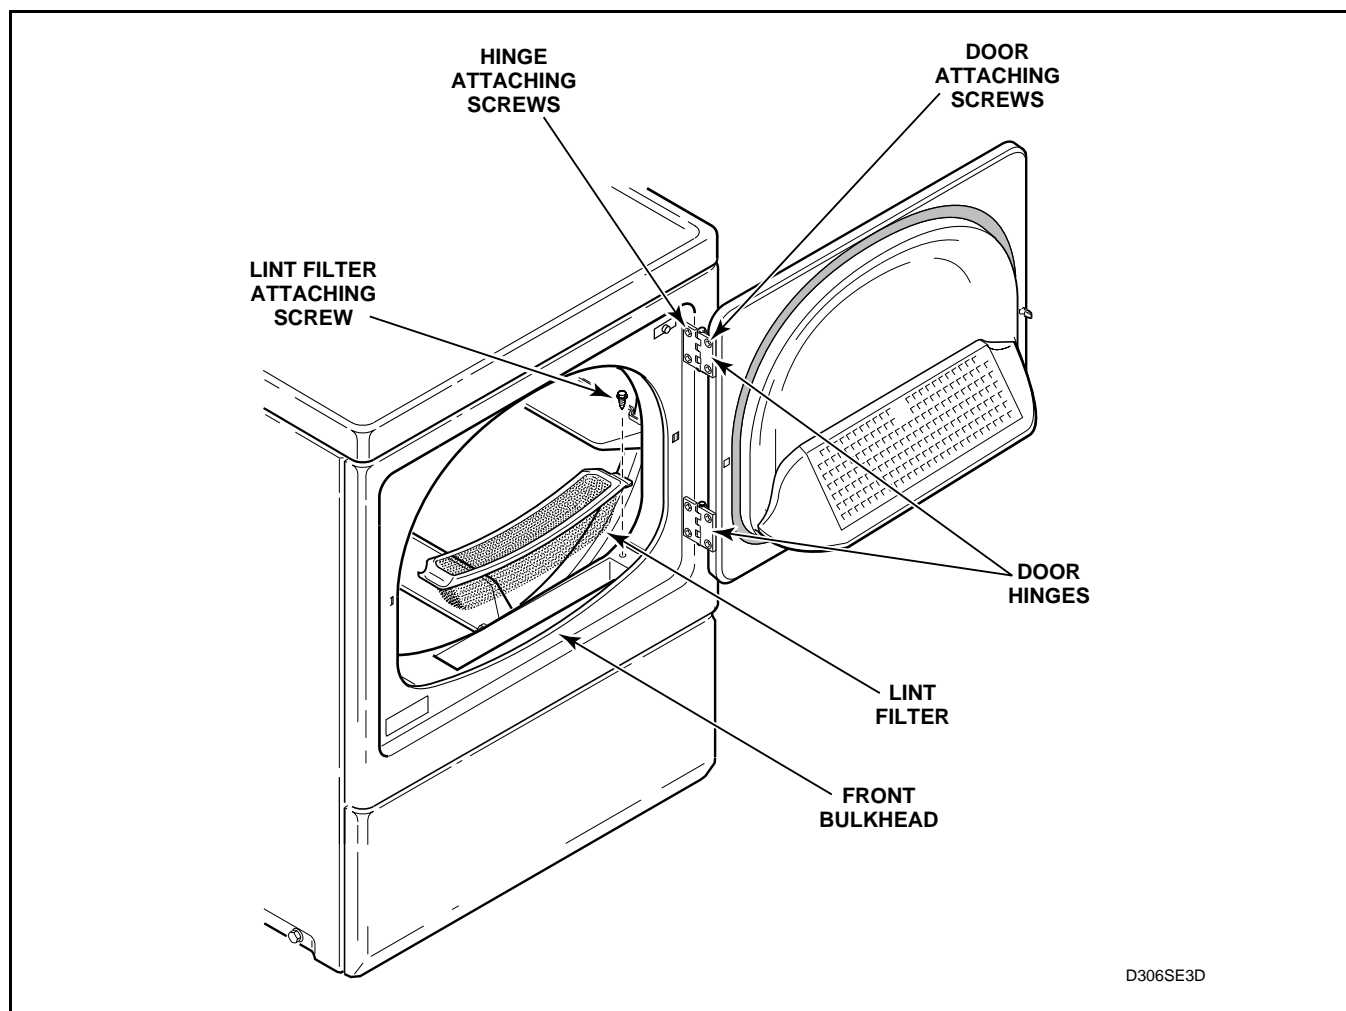

Figure 7
- Models with secured lint filter: remove screw from end of lint filter. See *Figure 7*.